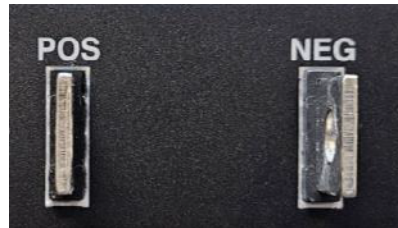

Figure 4. DC Output Bus Bars
2. Make connections to the load using wire and connectors appropriately rated for the maximum load current. Connect the load positive lead to the "POS" terminal, and the load negative lead to the "NEG" terminal (see Figure 4).